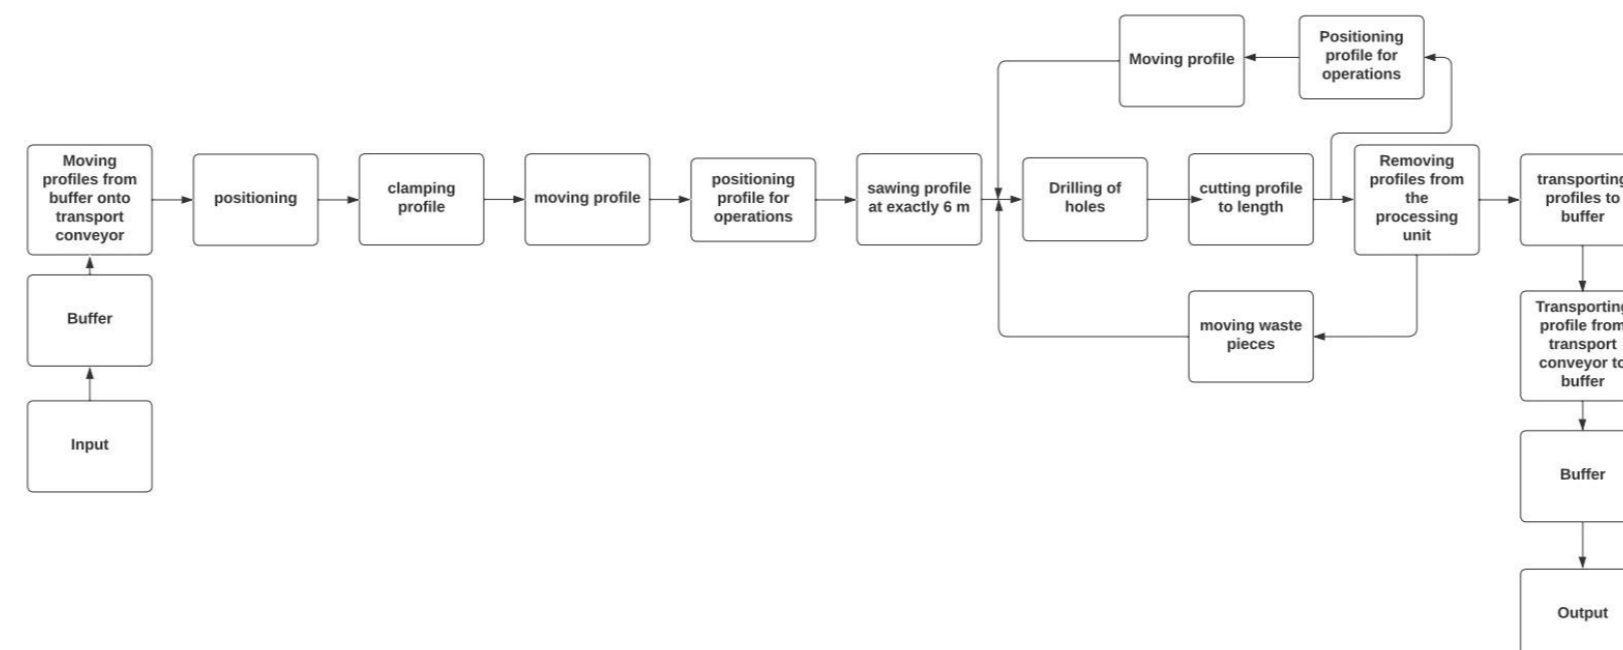

Figure 5: Function block diagram
- One solution was chosen and further developed to concept level. Figure 5 shows a concept drawing.